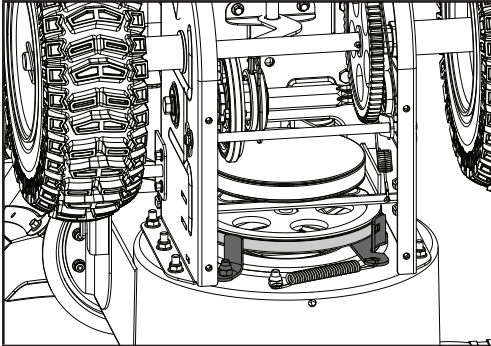

Figure 30
8. Ensure belt is seated below the belt guide on the idler pulley pivot arm (Fig. 30).